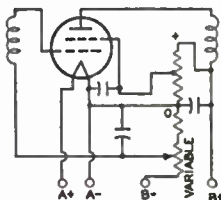

Fig. 85
bleeder circuit by means of a potentiometer as shown in Fig. 85; or (3) from a bleeder circuit in which the bleeder current is varied by a tube used for automatic volume control. The latter circuit is shown in Fig. 60.